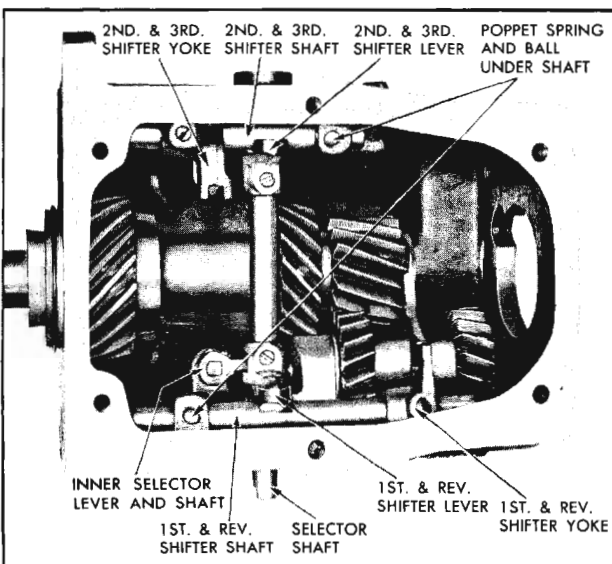

Fig. 11-13 Shift Mechanism
4. Remove the set screws from two shifter yokes. (Fig. 11-13)
12. Remove the set screws from the inner shift levers. (Fig. 11-13)